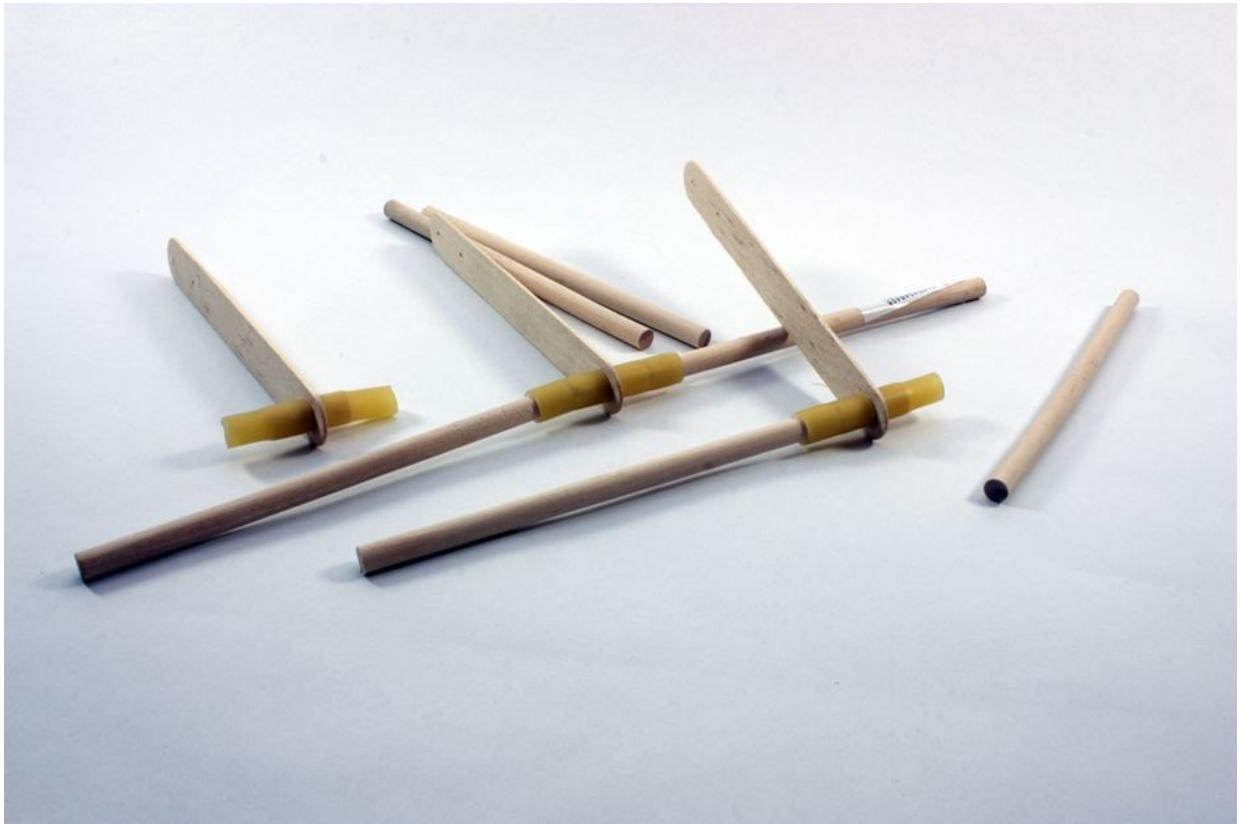

Figure 13-11. Attaching lower arms
- Now slip the longer dowels into each side of the upper arm, making a T shape, as shown in Figure 13-11.